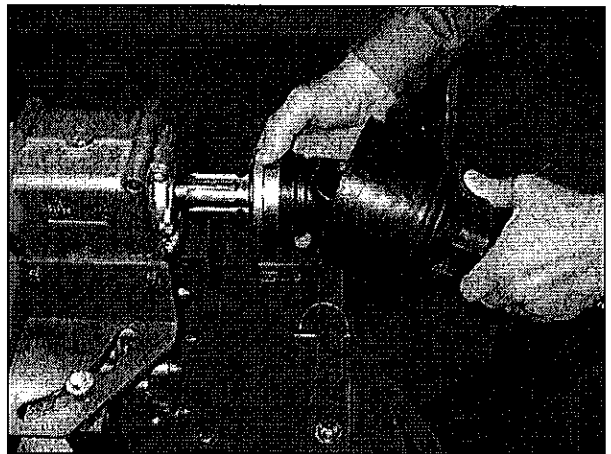

Figure 22
7. Reconnect the driveline to the top gearbox shaft (Figure 22).